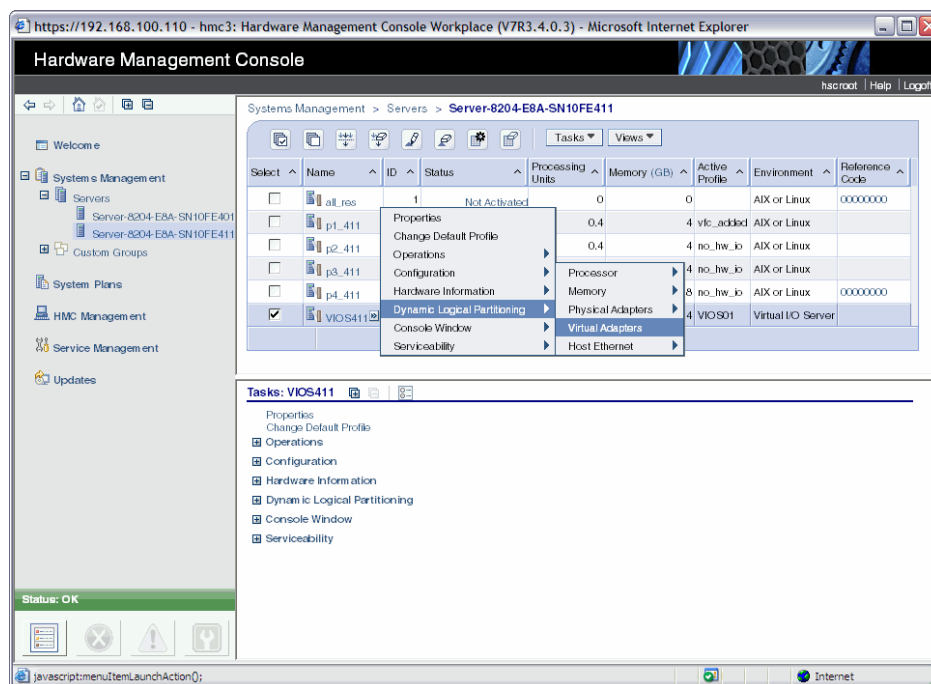

Figure 7-2 Dynamically add virtual adapter
- b. Select the Virtual I/O Server partition on which the virtual Fibre Channel is to be configured. Then select **Tasks** ∅ **Dynamic Logical Partitioning** ∅ **Virtual Adapters**, as in Figure 7-2.